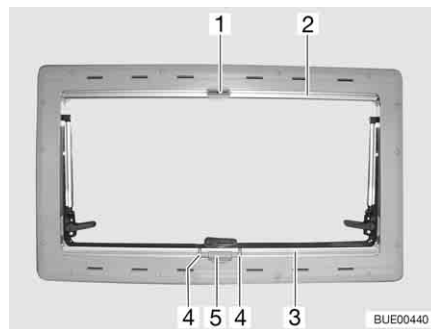

Fig. 84 Hinged window
- Press handle (Fig. 84,4) and draw blind (Fig. 84,3) from the bottom to the top up to the desired height.
- Clench handle (Fig. 84,4). The latch is released.
- Slowly return the blind (Fig. 84,3) to its initial position.
- Pull insect screen (Fig. 84,2) down until it touches the blind (Fig. 84,3), and engage the closure latch (Fig. 84,1) in the locking device (Fig. 84,5).
- Release the closure latch (Fig. 84,1).